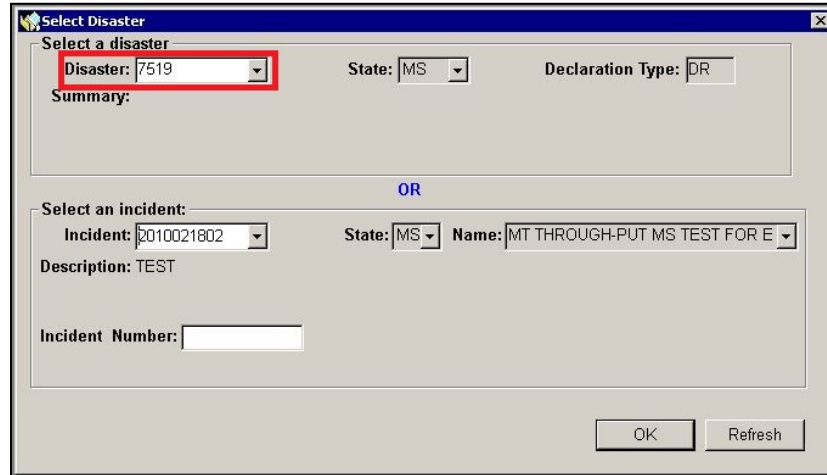

Figure 1-11: Disaster Information
- In the Select Disaster dialog box, enter the disaster number or select a disaster number from the drop-down list. The system auto-fills the other disaster information fields (Figure 1-11).